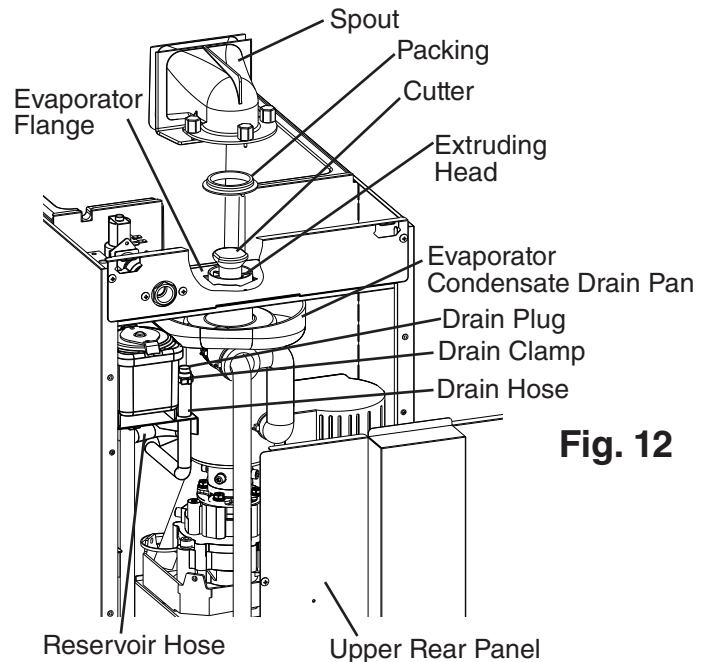

Fig. 12
- 7) Remove the upper rear panel. See Fig. 12.
- 8) Remove the clamp securing the drain plug, then lower the drain hose into a container. Remove the drain plug to drain the water from the reservoir and evaporator assembly. See Fig. 12.